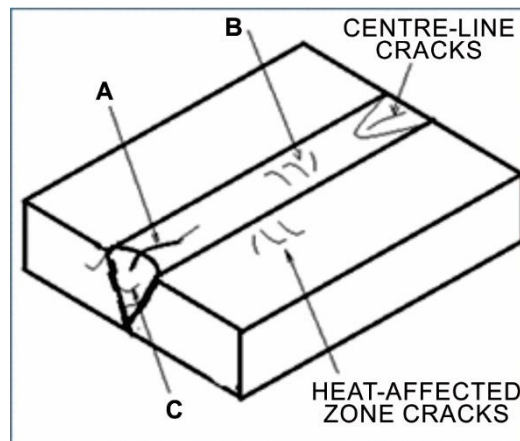

FIGURE 8.5
8.5 Figure 8.5 shows a V-butt weld with several visible cracks.